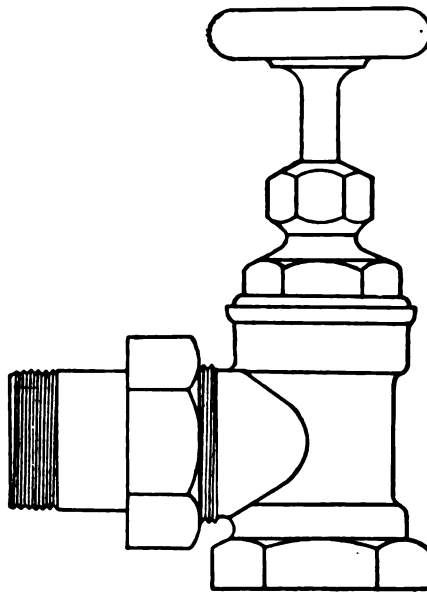

Fig. 88.—Common Hot Water Radiator Valve.
A. The common form is illustrated by Fig. 88. The angle type of valve is commonly employed. The body of the valve is